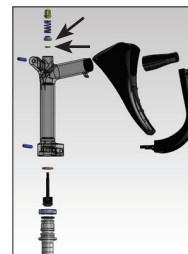

Figure 14
10. Remove the valve stop and valve stop o-rings (Figure 14).
Note: It is recommended to lubricate all o-rings during reassembly (Figure 14)